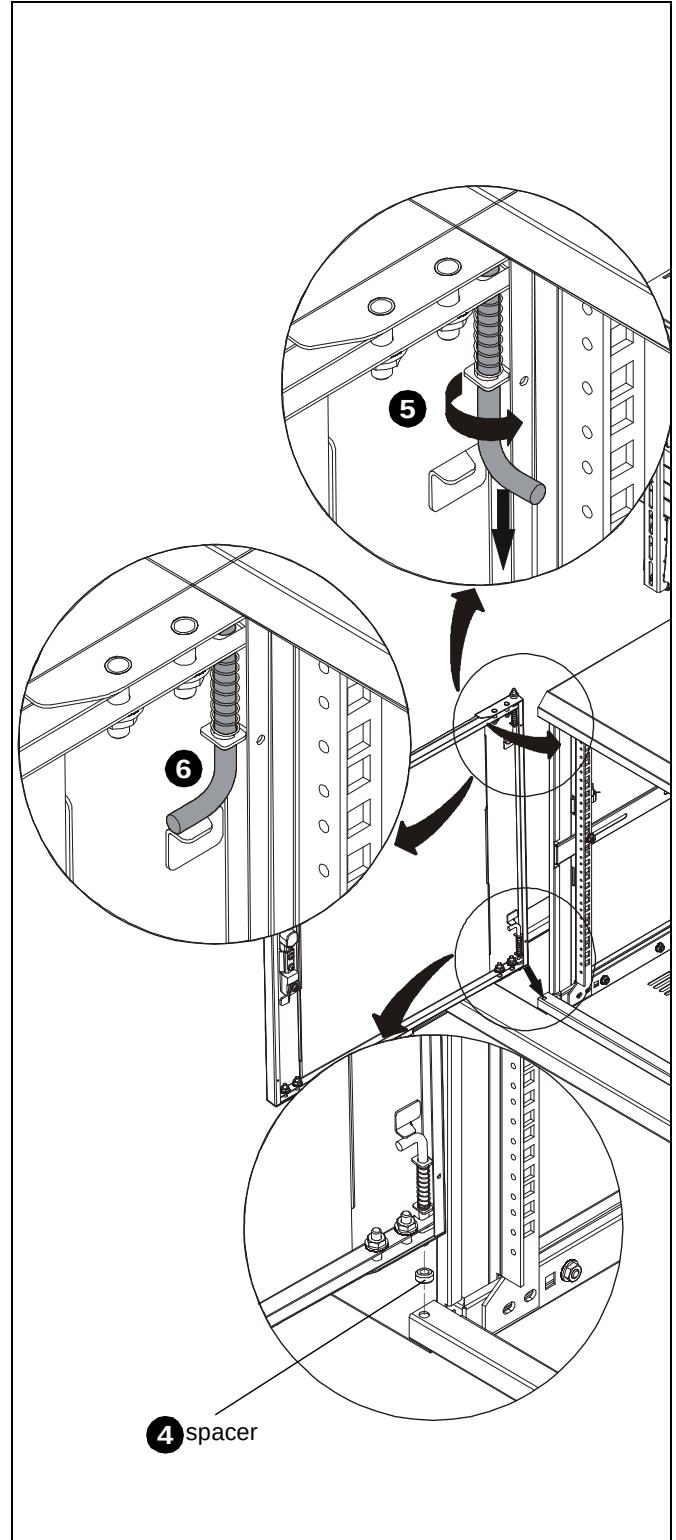

Figure 27
4. Fit spacer onto bottom pin and fit bottom pin into bottom mounting hole in rack. (See Figure 27)
5. Turn upper pin to release from locking tab and pull down. Fit pin into upper mounting hole in rack. (See Figure 27)
6. Release pin and turn pin to secure it under locking tab. (See Figure 27)